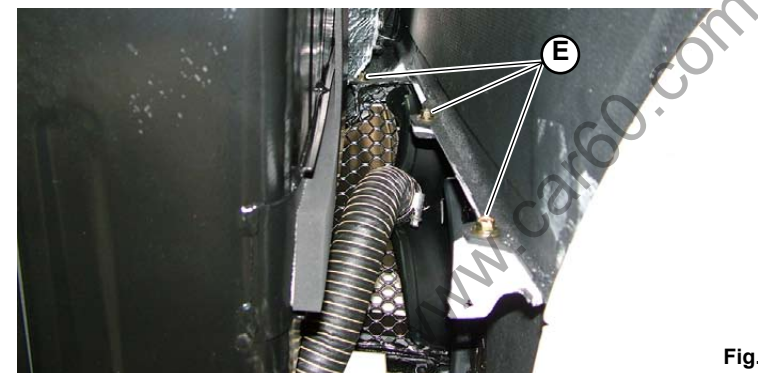

Fig.8
6. Position the rear part of the side member and secure it using the 3 internal screws (**E-Fig.8**).